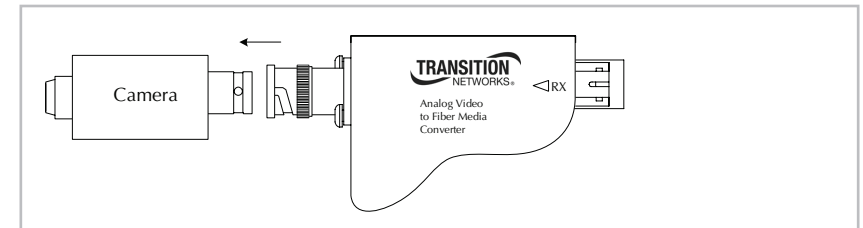

Figure 7: Transmitter Directly Mounted to Camera
1. Insert the BNC male connector of the transmitter into the BNC connector of the camera. See Figure 7.